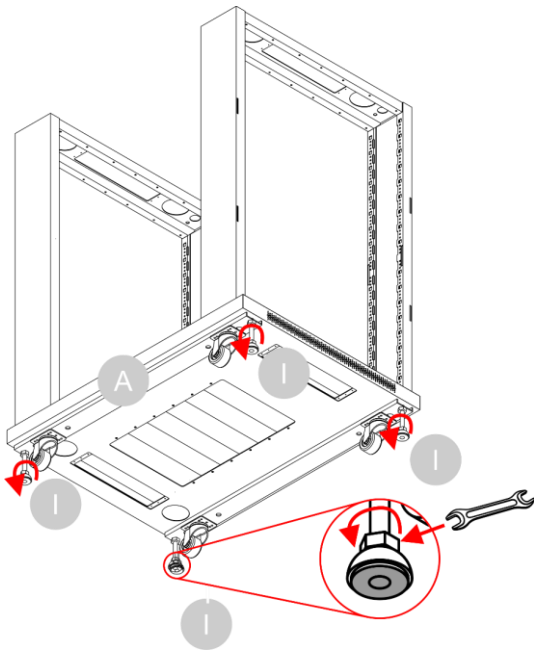

Fig. 25
- 08) Make sure that the **adjustable feet (I)** are extended more than the **wheels (J)**. If necessary, use a wrench to turn the bottom nut of the **adjustable feet (I)** counterclockwise, as shown in Fig. 25. This will prevent the cabinet from rolling on the wheels when you put it in upright position.